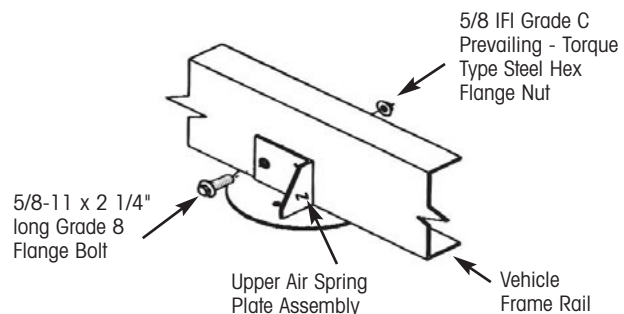

Figure 11. Upper Air Spring Plate Assembly Installation
3. Drill one 13/16" diameter hole through the upper air spring assembly, vehicle frame rail and the customer supplied backing plate. Check the upper air spring plate assembly location. Fasten with one 5/8"-11 x 2-1/4" large flange grade 8 bolt, 5/8" SAE grade 8 and a 5/8" IFI grade C prevailing-torque type steel hex flange nut. (See Figure 11) Torque to 180 ft-lbs.